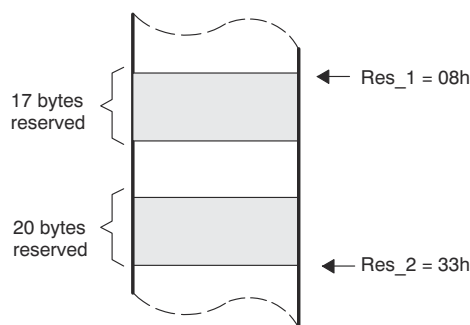

Figure 5-4. The .space and .bes Directives
- Figure 5-4 shows how the **.space** and **.bes** directives work for the following assembled code: